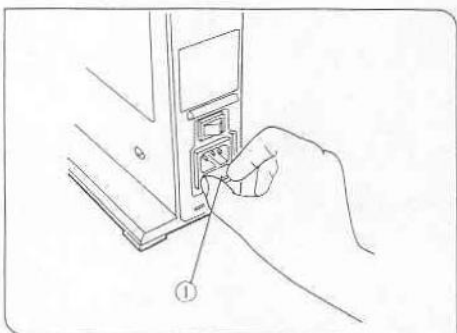

Fig. 13
(Figs. 13, 14)
1. Remove the fuse holder (1) by squeezing it at the sides and pulling outward. (Fig. 13)